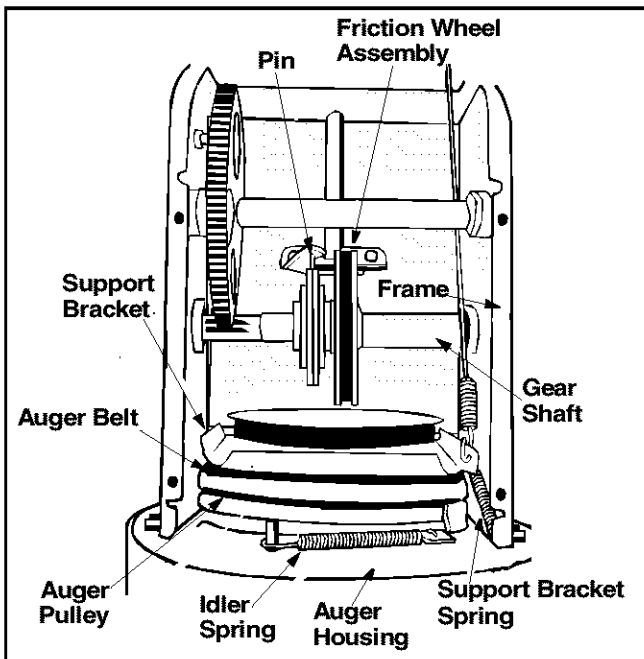

Figure 24
- Unhook the idler spring from the hex bolt on the auger housing. See Figure 24.
- Slide friction wheel assembly back onto the gear shaft. Be sure to align the pin on the shift rod with hole in the friction wheel assembly. See Figure 24.